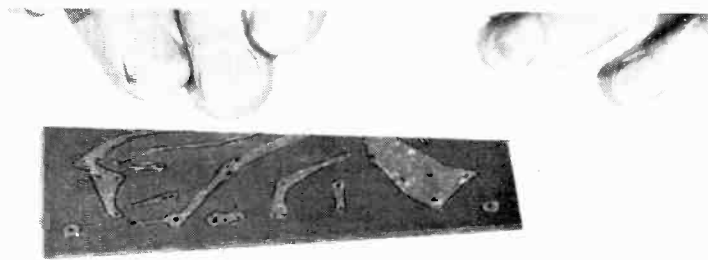

Fig. 8. Press down hard, to bond the remaining film to the board.
10) When all the unwanted film has been lifted, lay a sheet of paper over the board and press down firmly all over it. This bonds the film to the wanted copper so that it acts as an effective resist (Fig. 8). Make sure that no air bubbles are near the edge of an island. In the middle they don't matter.